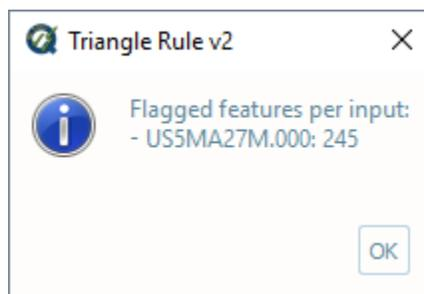

Fig. 2.38: DtoN's output message.
- After executing, the output window opens automatically, and the results are shown by textbox (Fig. 2.38).